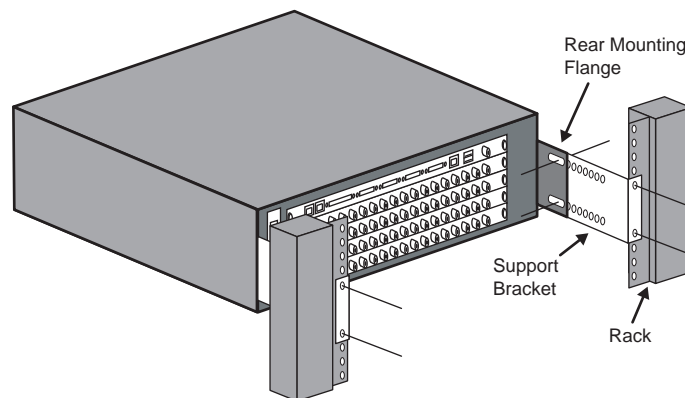

Figure 3.4 Support Brackets on the Frame (QMD Shown)
- If you have a QMD frame, use standard rack mounting bolts (not supplied) to attach the support brackets to the **Rear Panel Mounting Flange** (**Figure 3.4**). The support brackets are adjustable to accommodate different rack sizes.